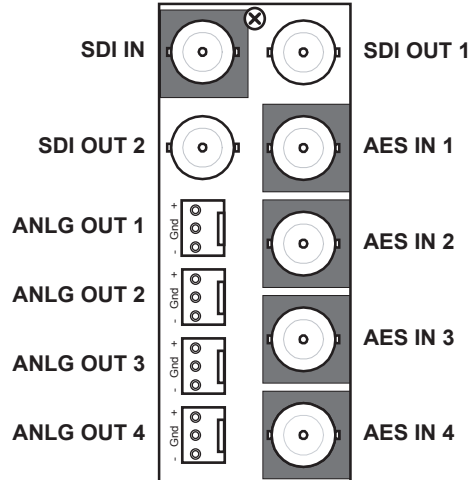

Figure 5.11 Cable Connections for the SFS-8622-AOC — Four AES Inputs, Four Analog Outputs
**Figure 5.11** illustrates the cabling designations for one SDI input, two SDI outputs, four AES-3id 75ohm unbalanced inputs, and four analog balanced outputs. The **AES I/O Config** is set to **4 in, 0 out**.